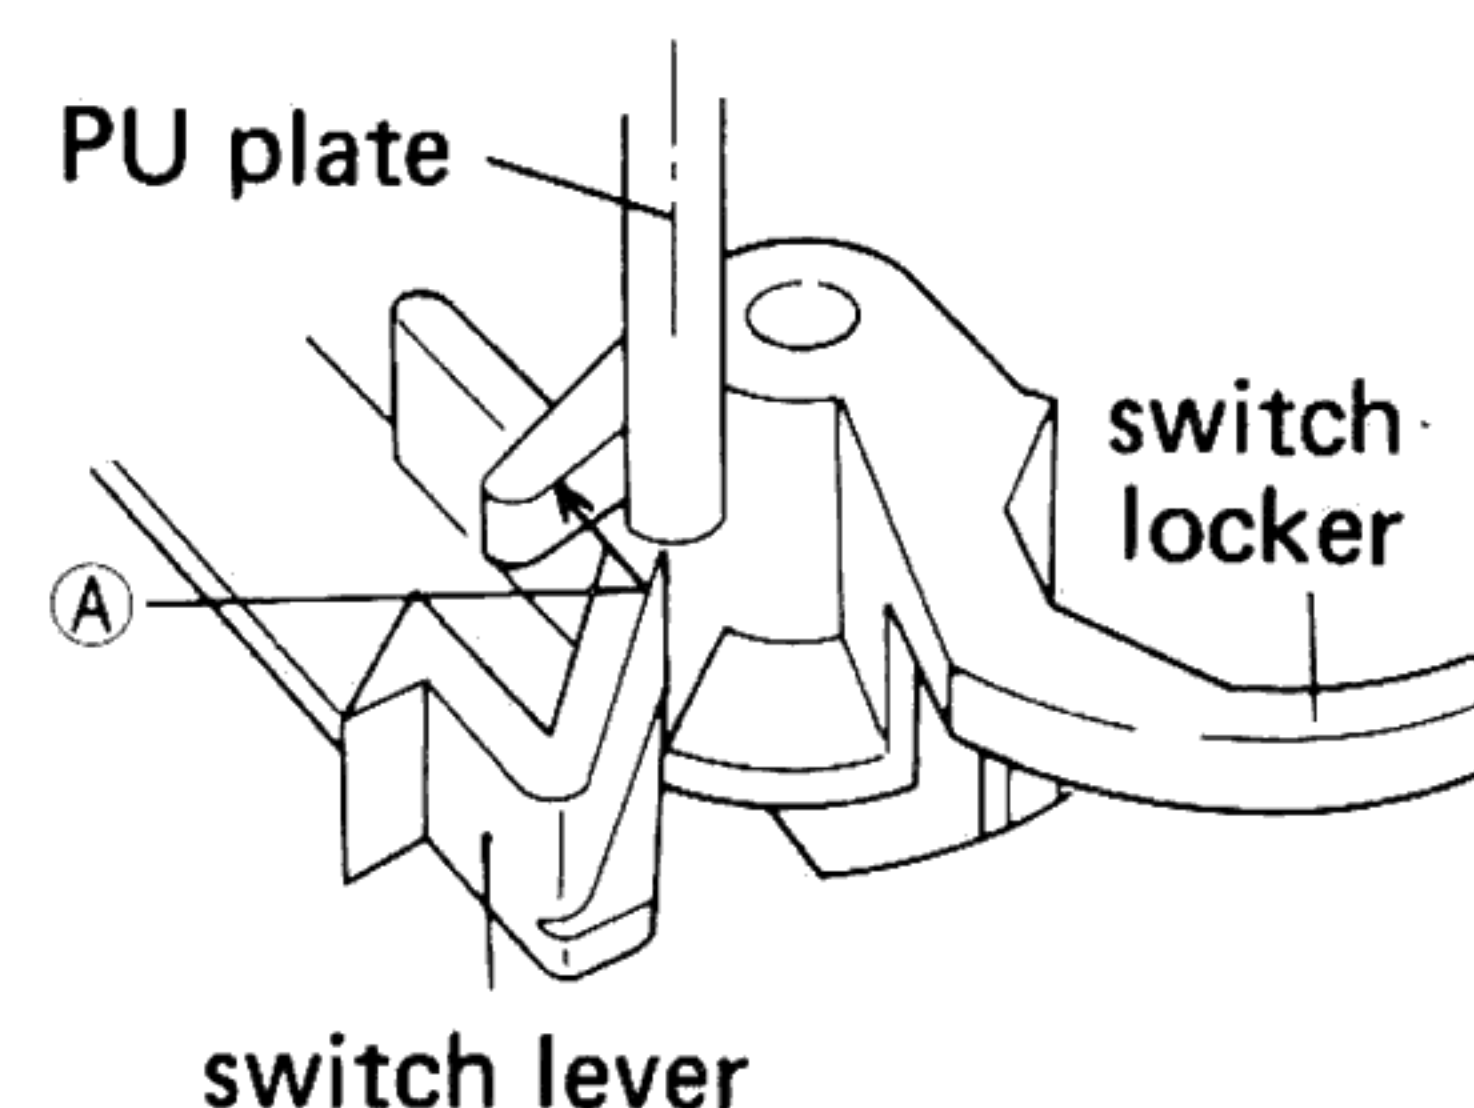
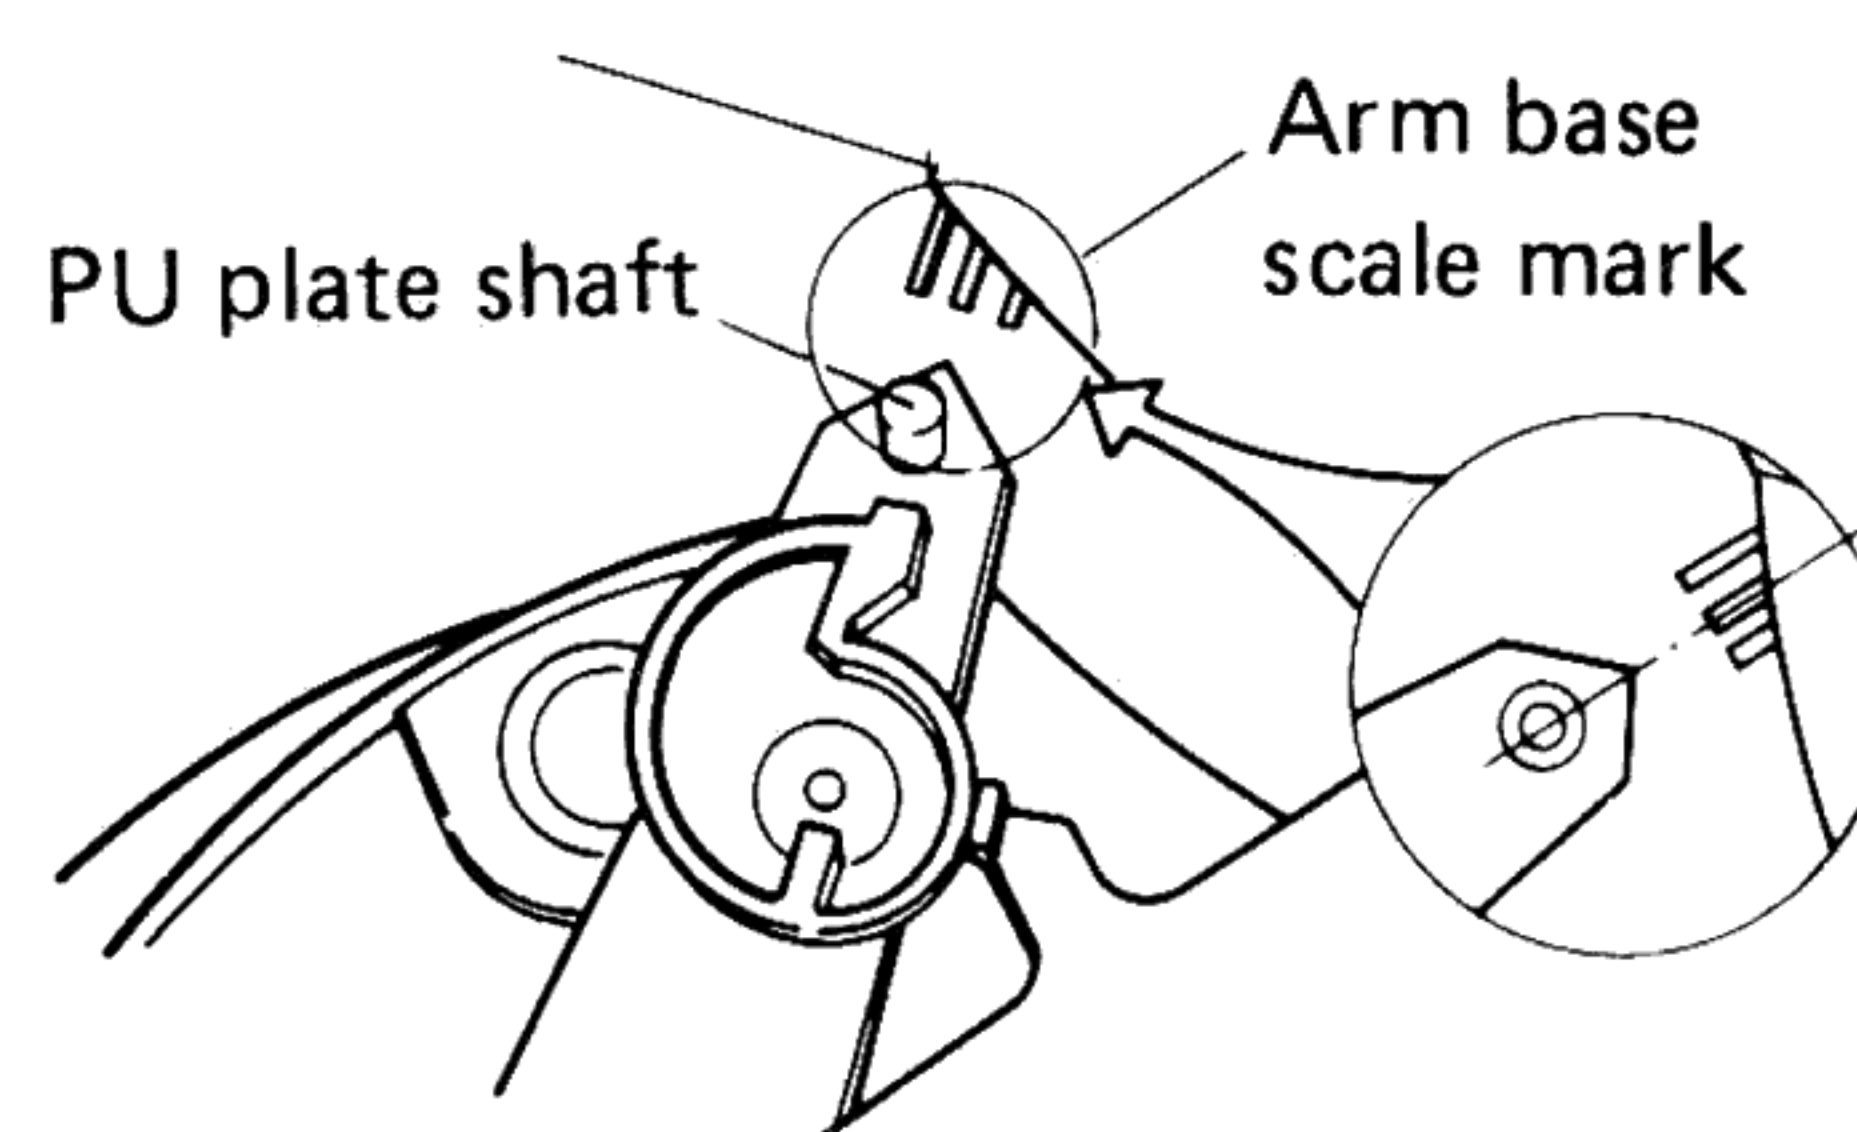

Fig. 4-7 Adjustment of switch locker
Fig. 4-8 Adjustment of PU plate
In order to turn the power OFF, the PU plate shaft touches surface ① of the switch locker pushing it over so it locks with the switch lever turning the microswitch OFF (Fig. 4-7). If the amount of push on the switch locker is insufficient, it can not lock with the switch lever. With the tonearm locked in the arm rest, as shown in figure 4-8, attach the PU plate precisely midway between the first and second points from the arm base scale mark counting away from you.